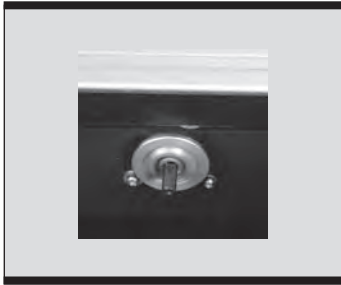

Fig 2
- Insert the inner flange, the diamond disc and the outer flange on the spindle (Fig 2) then tighten the bolt clockwise with the two spanners provided (Fig 3).